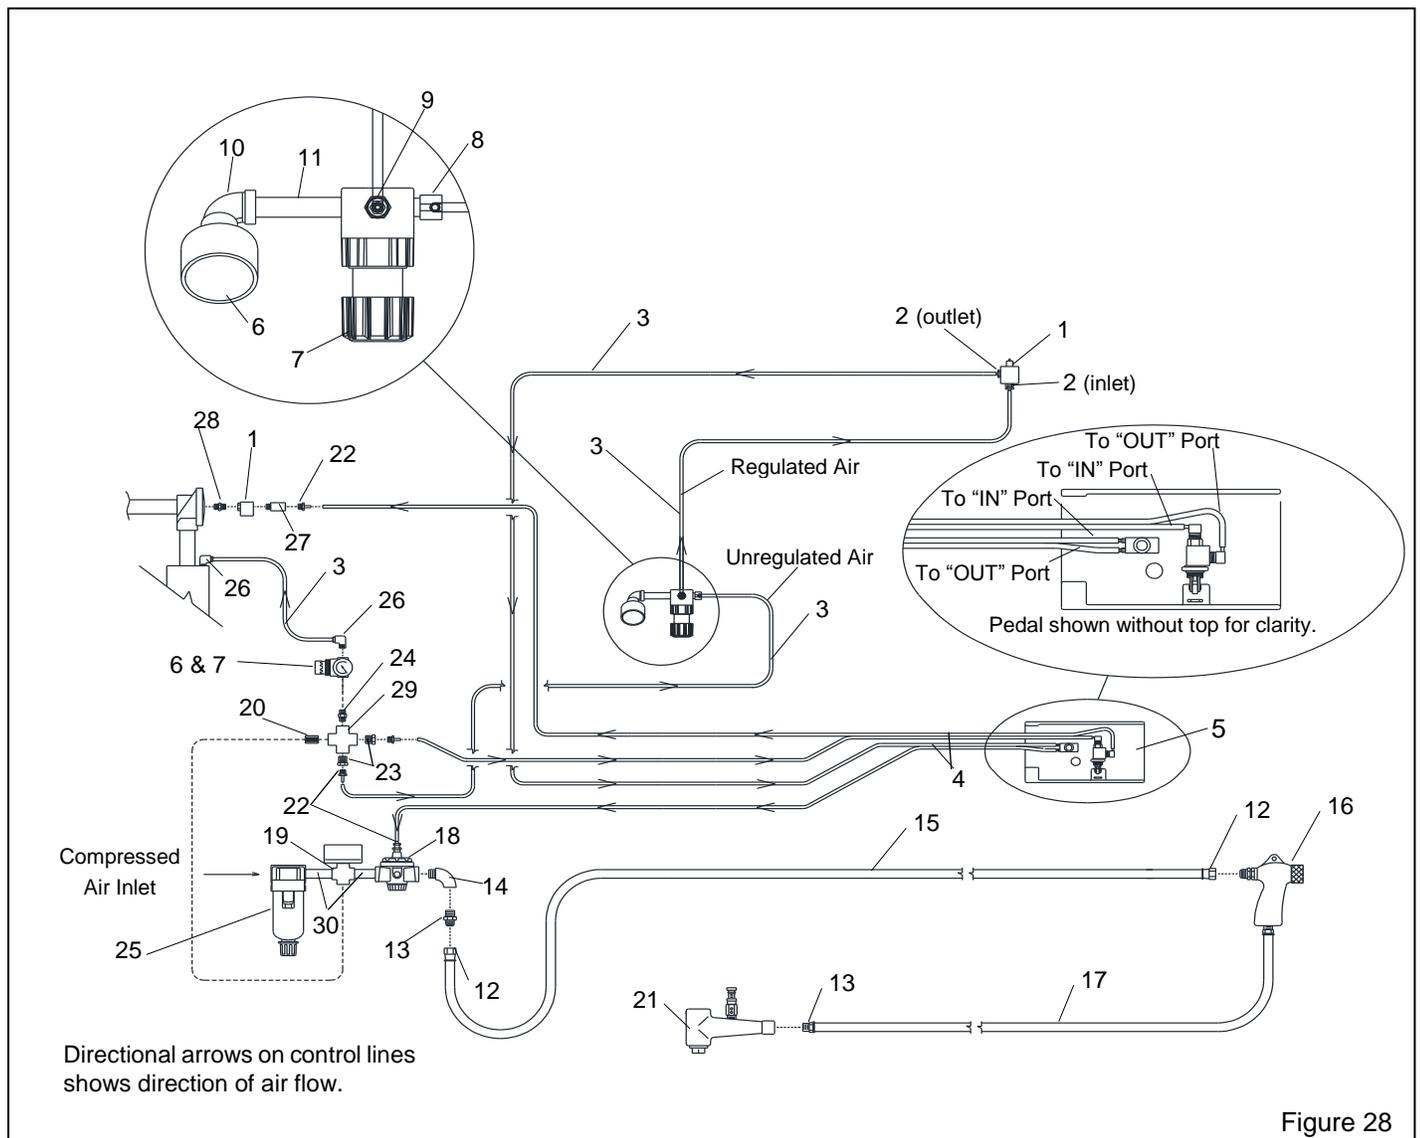

Figure 28
8.7 Cabinet Controls and Plumbing – Figure 28